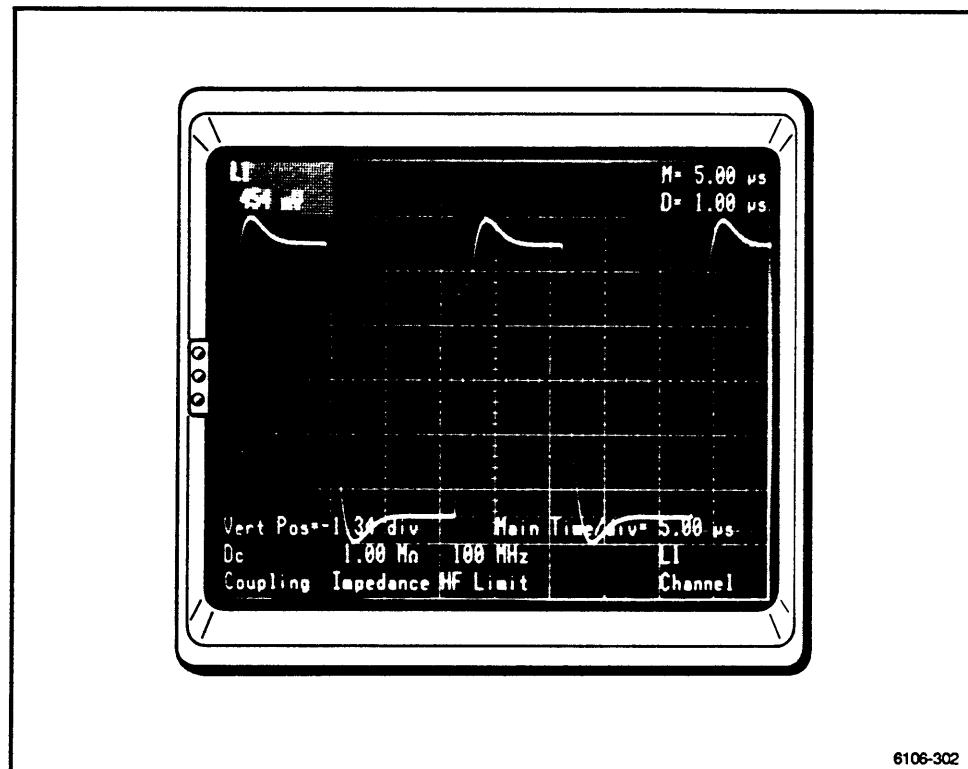

Figure 2-103. Setting VERTICAL SIZE and POSITION.
2. Using the VERTICAL SIZE with the FINE control, adjust the trace such that the top (100% point or plateau) value and the bottom (0% point or baseline) value (not the Min or Max) are 5 divisions apart. (See Fig. 2-103.)